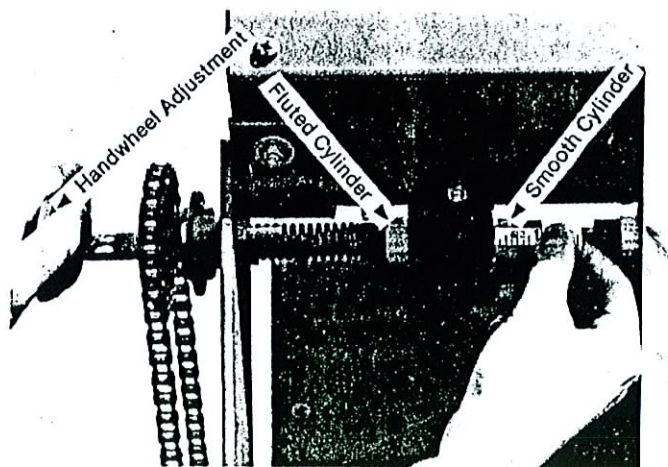

Figure B-12
On the small hopper, the seeder adjustment differs from the large hopper in that the amount of smooth cylinder protruding from the seeder is measured as opposed to the actual seeder opening. See Figure B-12 to illustrate this measurement. The amount of smooth cylinder protruding from the seeder is directly proportional to the amount of fluted cylinder dispensing seed. As noted on the seed charts, the charts were developed for a specific drive unit under average circumstances. These seeding amounts should be used as a guideline to setting the Pasture Pleaser. The operator should verify the actual output. Never close seeder opening smaller than the seed being planted.
- NOTE: (1) See Figure B-12 for proper measurement of seeder setting.
(2) Rates given are for unit operating with 18'' diameter drive coulters.
(3) The rates shown on this chart are based on seeds of average weight per bushel. Increase opening for lighter seeds; reduce opening for heavier seeds. The operator should verify actual output.
(4) When drilling seeds not shown on the chart, compare weight and size of seeds with those shown.
(5) If using 4'' x 8'' center gauge wheel drive (48'' circumference) multiply rates shown in the charts by 1.17.